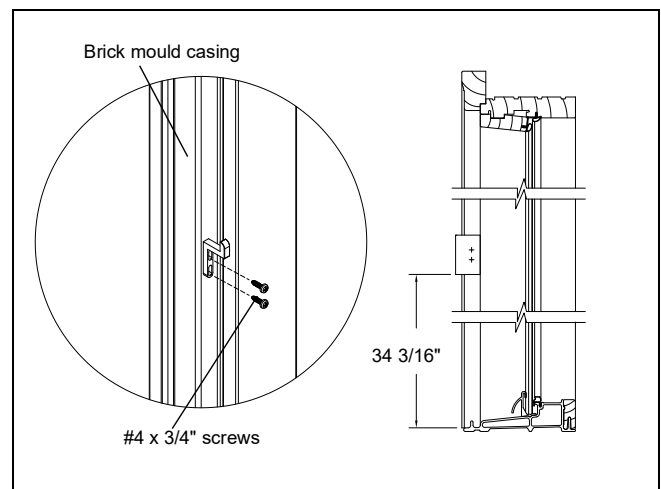

Figure 4
- To mount strike plate on casing, cut out template below. Place bottom edge of template 34 3/16" (868) from the exterior top edge of the sill. With template at this measurement mark screw location. Attach strike with #4 x 3/4"(19) screws. See figure 4.